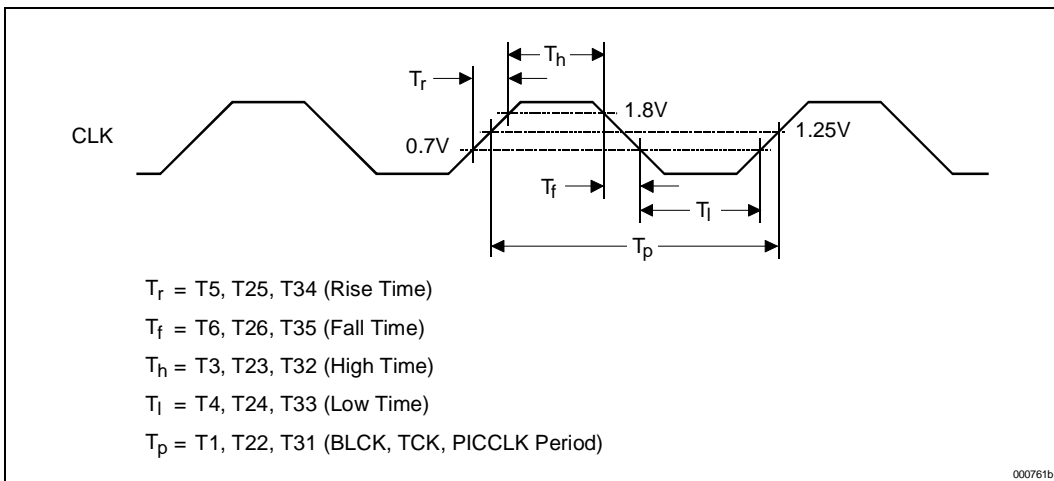
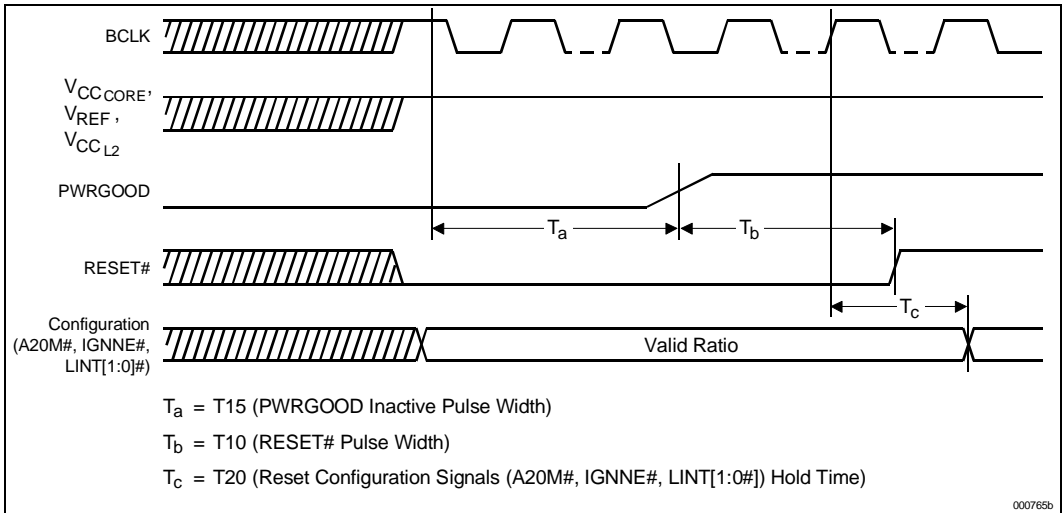
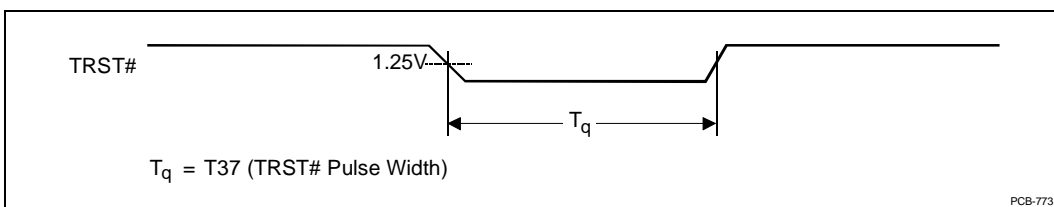

Figure 7. BCLK, TCK, PICCLK Generic Clock Wave Form
Figure 12. Power-On Reset and Configuration Timings
Figure 14. Test Reset Timings
NOTES FOR FIGURE 7 THROUGH FIGURE 14
1. Figure 7 through Figure 12 are to be used in conjunction with Table 8 through Table 16.